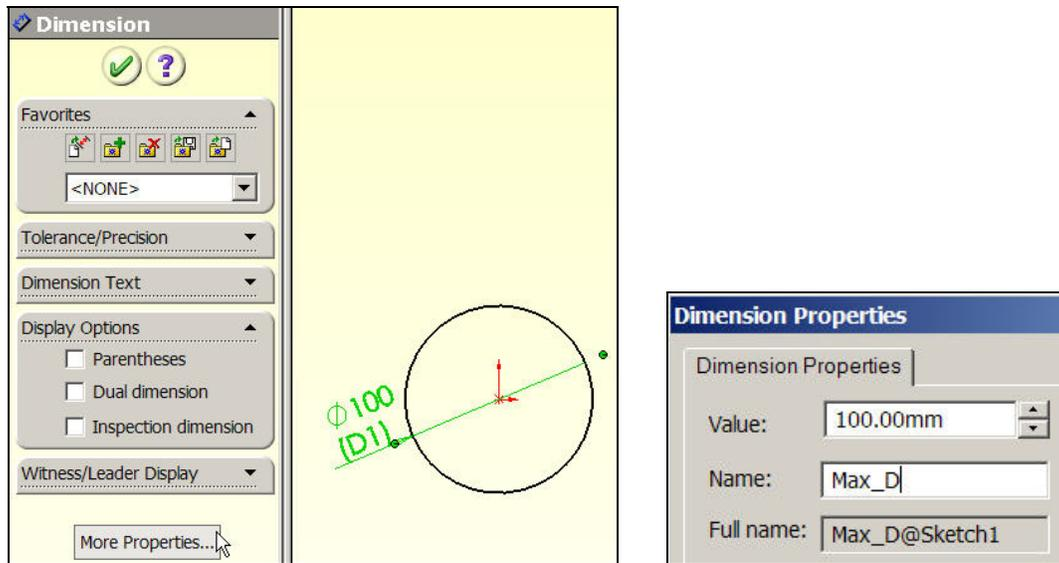

Figure 2 Specify the outer cylinder diameter size and name
7. There **type** the desired name, say **Max\_D→OK**, as seen in Figure 2.